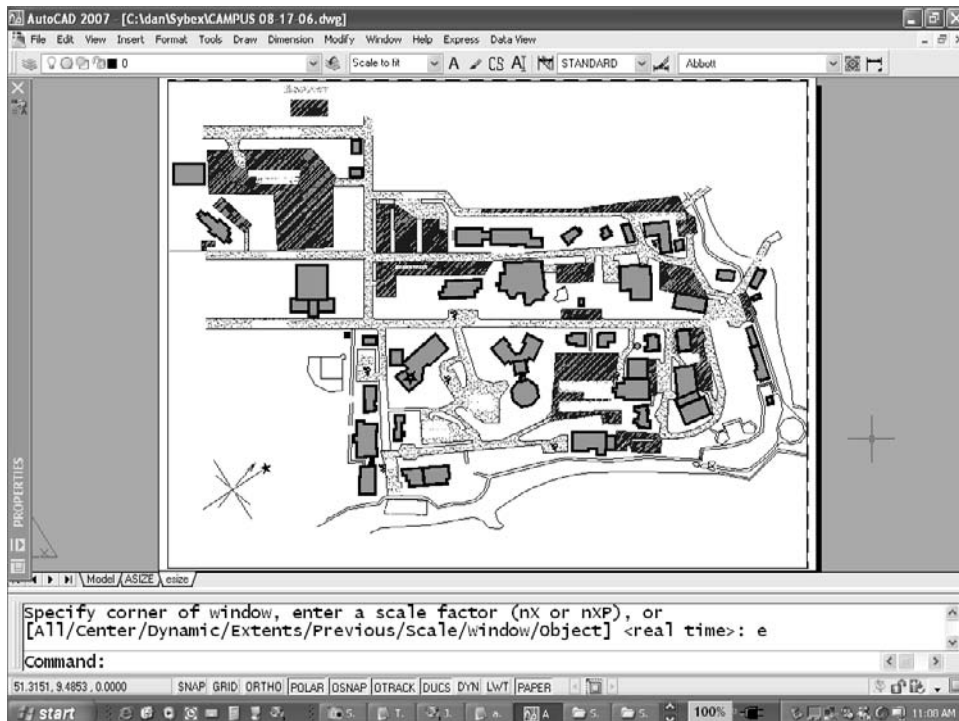

Figure 6.31
7. Type X↵ to exit DVIEW, and scale the floating viewport. The results are shown in Figure 6.31.